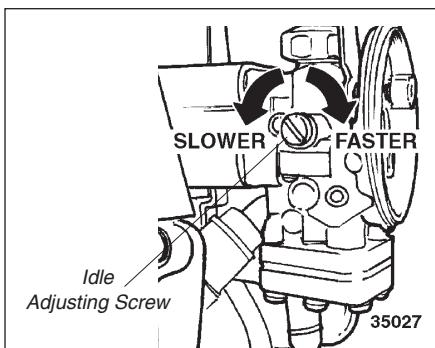

Figure 26
2. If the attachment rotates when the engine is at idle, reduce the idle speed by turning the idle adjustment screw counter-clockwise. See Figure 26.